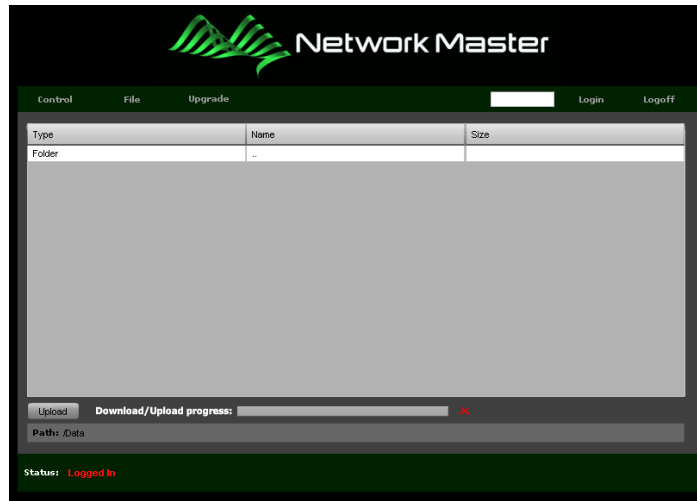

Figure B.2-6 Remote Client (Data Directory)
3. To navigate in the directory structure, click on any of the directory folders. The selected folder will open (or close) to expand (or contract) the contents of the folder, as shown in Figure B.2-6.